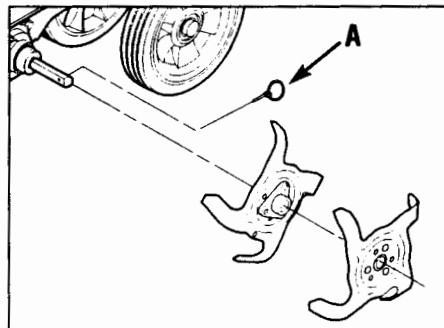

Figure 12: Standard wide tine pattern and ring lock pin location.
2. Flip open the ring (A, Figure 12) on the left side ring lock pin and remove the ring lock pin.
IMPORTANT: The ring lock pin (A, Figure 12) is under spring tension – use care when removing or replacing the ring lock pin.
2. Remove the ring lock pin (A, Figure 12) from both sides of the unit. Remove both outer tine sections. Be sure to mark each section as a left or right side tine and whether it is an inner or outer section.
2. Remove the ring lock pin (A, Figure 12) from both sides of the unit. Remove the old tine sections and replace them with new tine sections. Refer to Figure 12 and the tine position shown in the *Parts List* for tine positioning details. Insert the ring lock pins through the rounded side of the tine shafts and snap the ring over the shaft (see *DETAIL - Ring Lock Pin*, Figure 10, in Section 4).